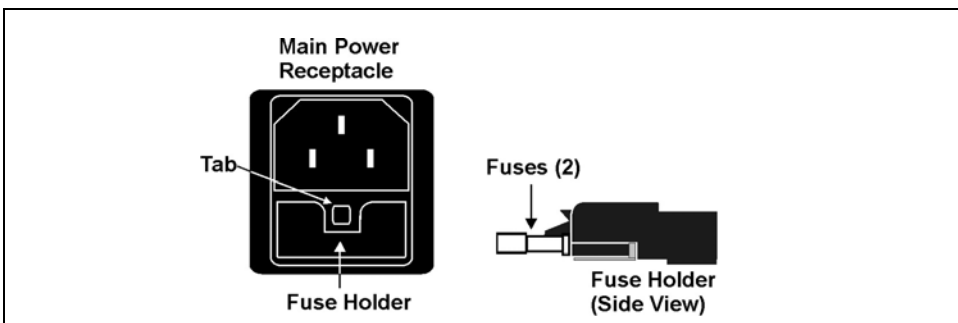

Figure 5-34. Main Power Fuse Holder
2. The fuse holder is part of the main power receptacle (see Figure 5-34) on the ICS-2100 rear panel. To remove the fuse holder, squeeze the tab on the top of the holder to release it and pull the holder straight out of its compartment.